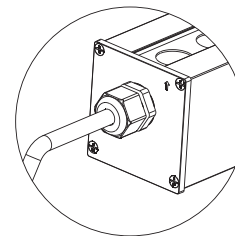

figure 8-2
- c. Open the knockout hole in the end cap of the fixture where the male connector is, and place the PG13.5 cable gland provided with the fixture into the newly made knockout. **Fig 8-2.**